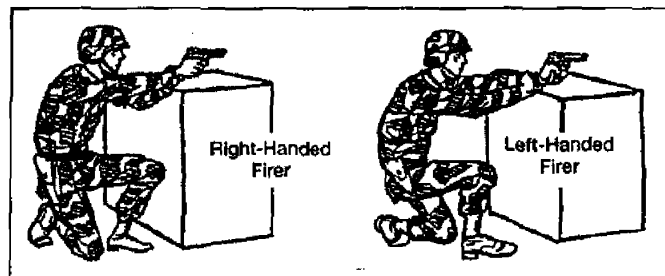

Figure 071-004-0006-8. Kneeling position
d. Standing-without-support (figure 071-004-0006-9). To assume this position—
- (1) Face the target.
- (2) Place your feet a comfortable distance apart.
- (3) Wrap your nonfiring hand around the fist or wrist of your firing hand. Lock the wrist and elbow of your firing arm toward the target.
- (4) Keep your body straight.